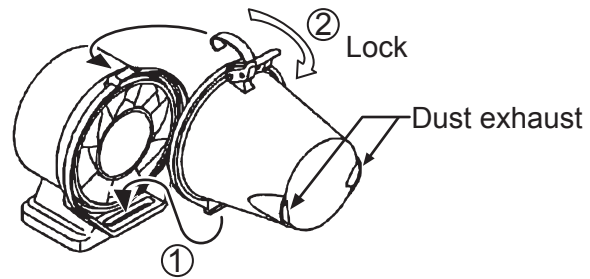

Figure 26. Latching Dust Pot
3. Reinstall dust pot onto air cleaner body and secure dust pot with locking latches (Figure 26).